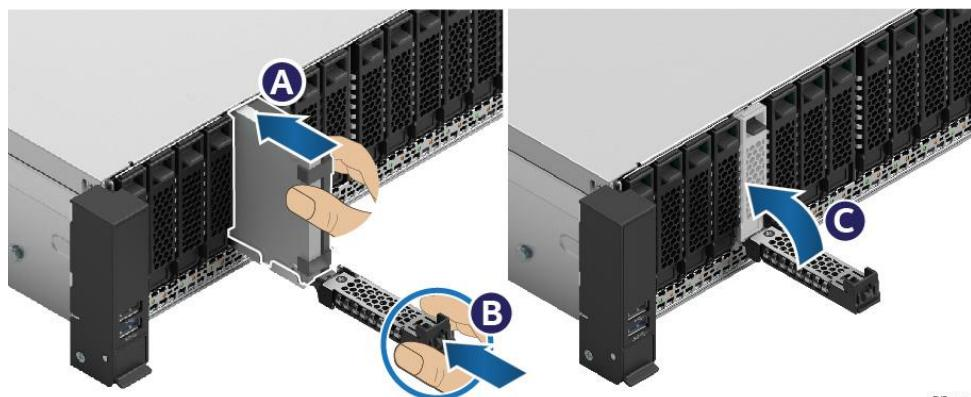

Figure 140. 2.5" 7 mm Drive Installation into Chassis
3. Insert the assembled 7-mm thick drive (or non-assembled 15-mm thick drive) into the drive bay (see Letter A, Figure 140).
4. Push forward until the drive contacts with the backplane (see Letter B, Figure 140).
5. Complete the drive installation by closing the drive extraction lever until it locks into place (see Letter C, Figure 140).